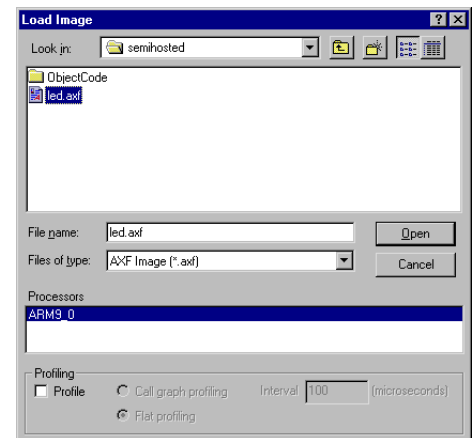

Figure 3-6 Loading the LED application
- Load the semihosted version of the `led.axf` image. See Figure 3-6. (For AXD, select **File** → **Load image**)